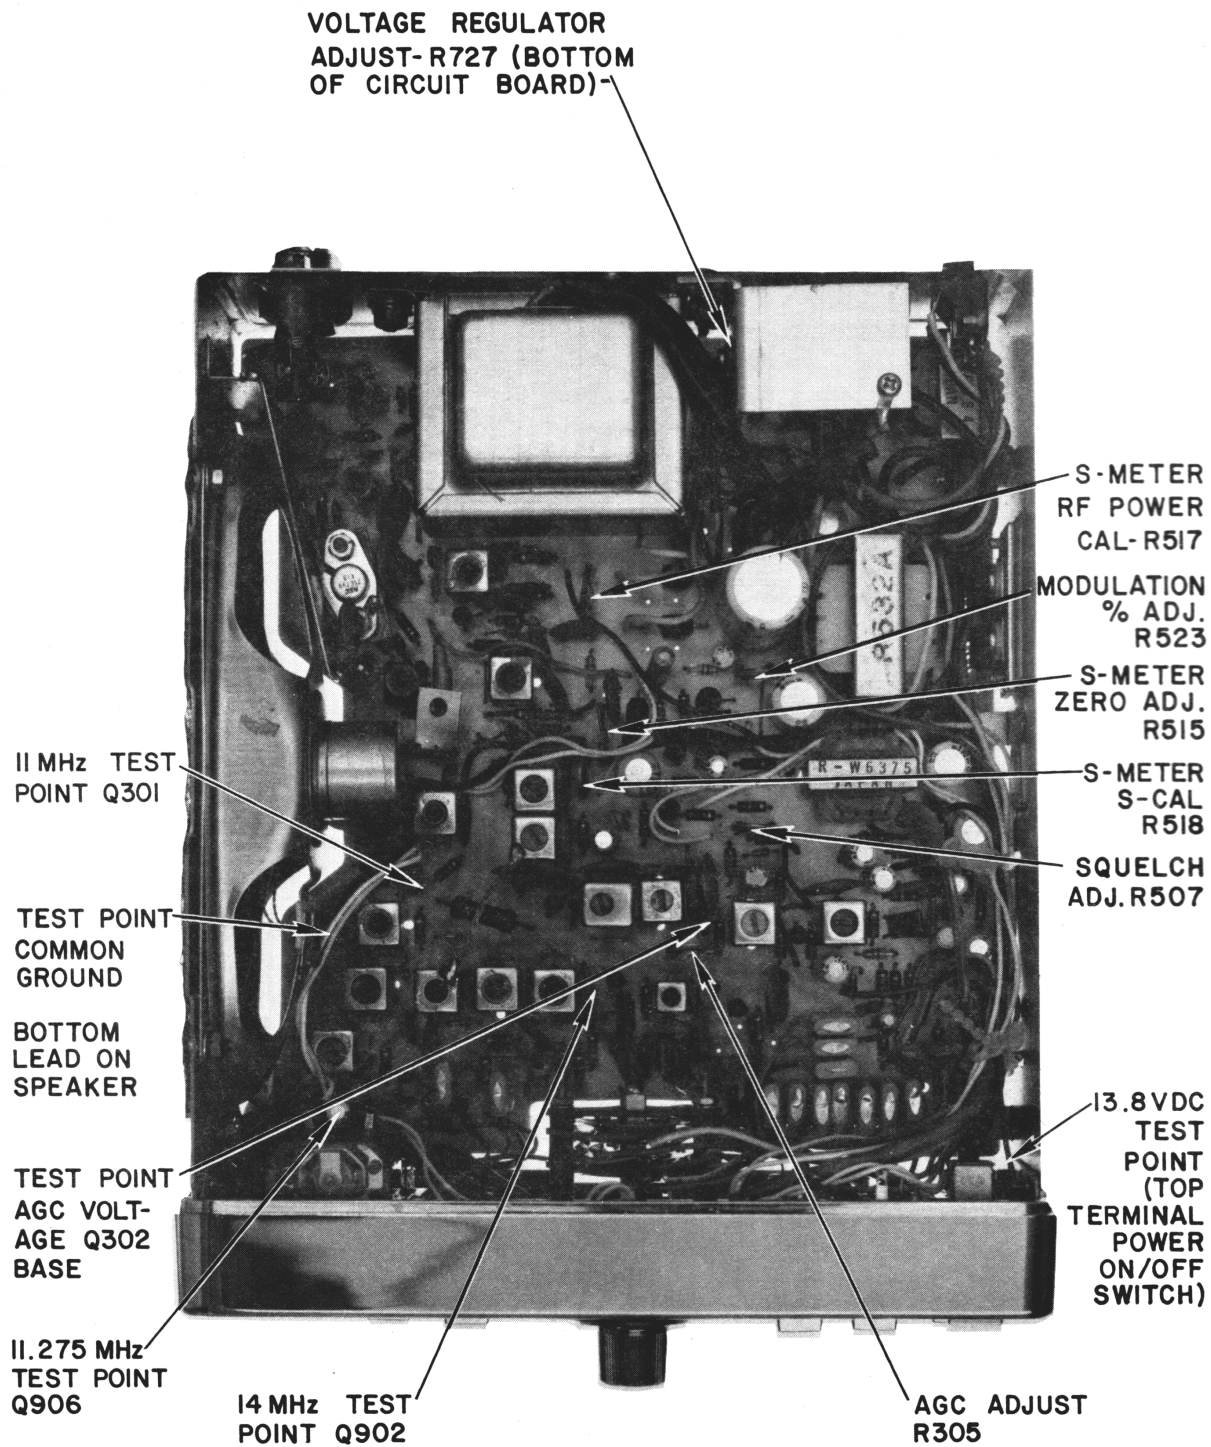

FIGURE 9, INTERNAL ADJUSTMENTS AND TEST POINTS, LOCATION DIAGRAM
- Figure 9, Test Points and Adjustments